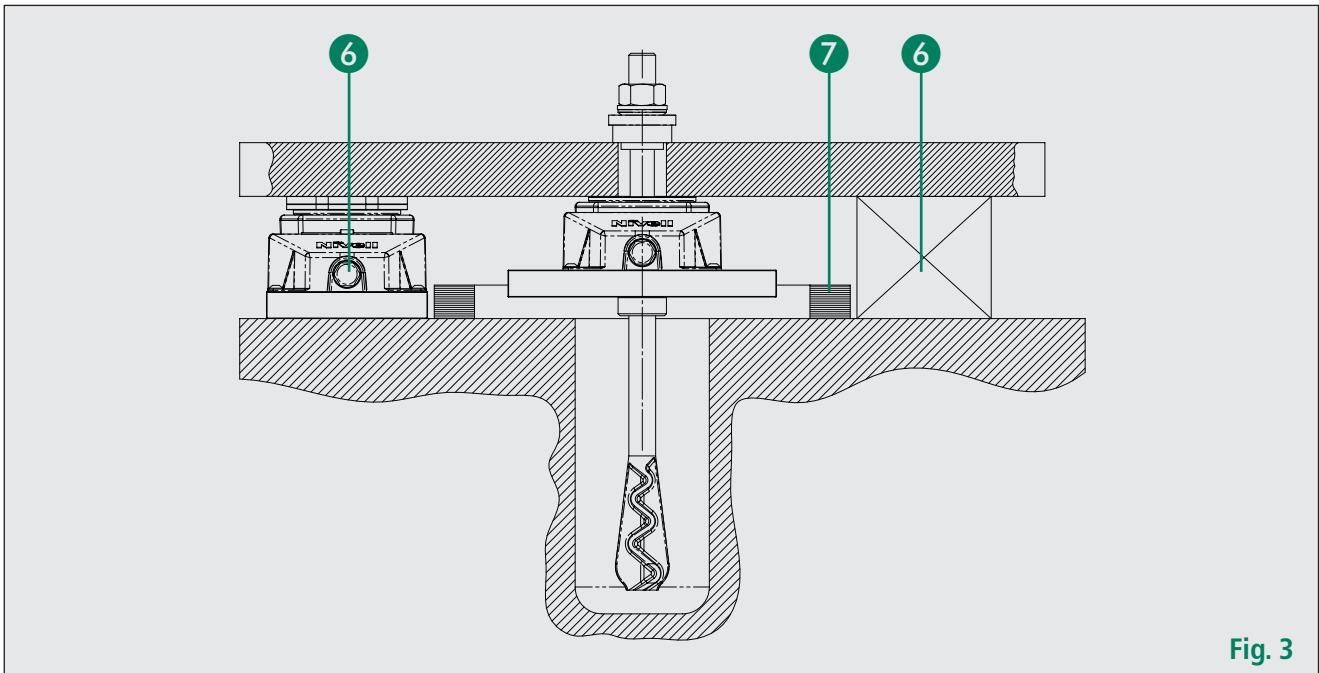

Fig. 3
- Prepare the grouting frame (Fig.3, pos. 7).
- DK auxiliary wedges (Fig. 3, pos.6), wooden blocks or other support aids (Fig. 3, pos.6).
- Position the grouting frame (Fig. 3, pos. 7)
- Lower the machine, then support it on auxiliary wedges or other supporting blocks (Fig. 3, pos. 6) and adjust horizontally. Set vertically to $\pm 0.5\text{mm}$
does not exceed the level of the heavy duty anchor base plate. Once the grout/cement has set – approx. 3 days with grout and 20 days with cement (please refer to manufacturer's instructions) – the grouting frame (Fig. 3, pos. 7) and the auxiliary wedges or auxiliary blocks (Fig. 3, pos. 6) can be removed. Lower the auxiliary wedges and remove. Remove the auxiliary blocks by gently lifting the machine and the DK heavy duty anchor.